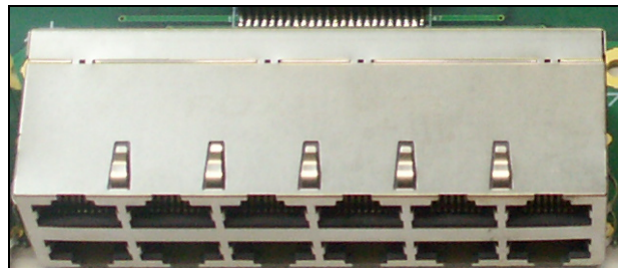

Figure 5: RJ45 Connectors
1. RJ45 Connectors (see Figure 5)